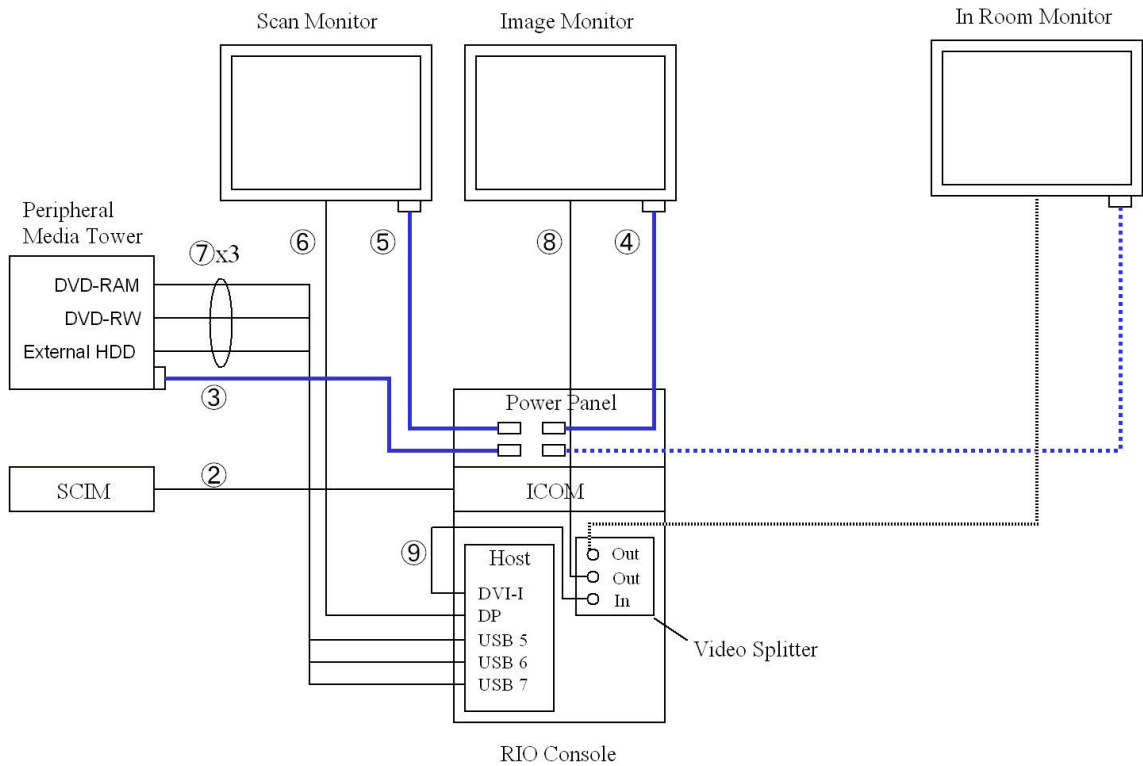

Figure 1-2 RIO Console with In Room Monitor Option Cable Connection
- 2.) Replace the cables according to the Table 1-3 and Figure 1-2.